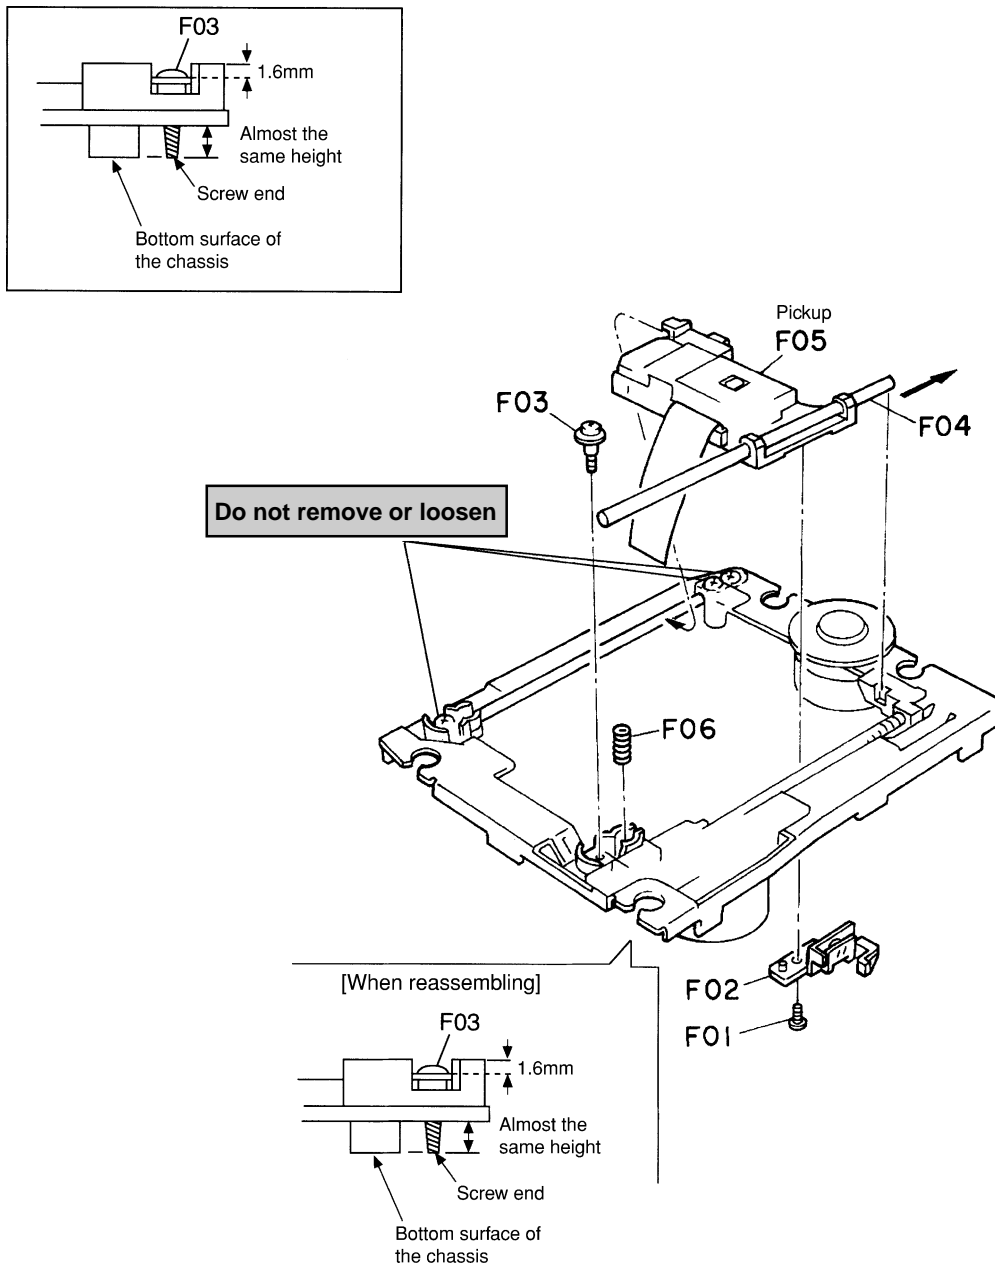

Fig.2-8
2.10 Pickup (Refer to Fig.2-8)